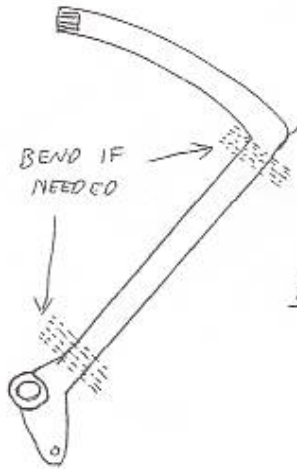

FIG 1
1. Decide where you want the brake pedal the car. Then, look to see how this lines up with the chassis. Many times I prefer to put the brake pedal on the left side the column, which gives more foot room around the gas pedal. To get the desired location, many installations require bending the pedal. A little heat will help out here. (fig. 1)